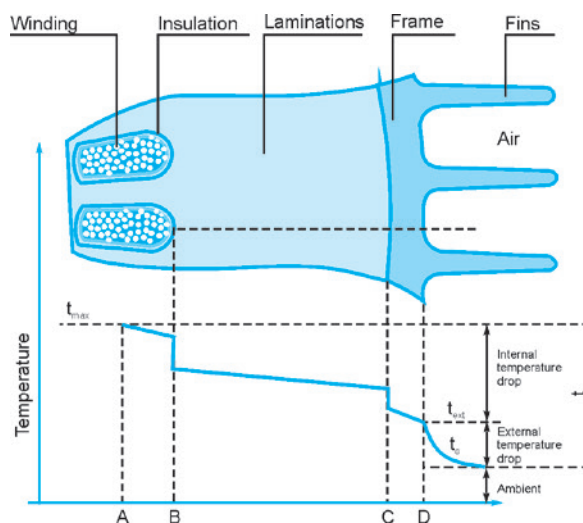

Figure 7.1
c) An efficient cooling system is one that is capable of dissipating the largest possible amount of heat through the smallest dissipation area. Therefore, it is necessary that the internal drop in temperature, shown in figure 7.1, is minimized. This means that a good heat transfer must take place from the inside to the outer surface of the motor.
As explained, the objective is to reduce the internal drop in temperature (i.e. to improve the heat transfer) in order to obtain the largest possible drop of the outside temperature necessary for good heat dissipation. Internal drop in temperature depends on different factors which are indicated in figure 7.1 where the temperatures of certain important areas are shown and explained as follows: